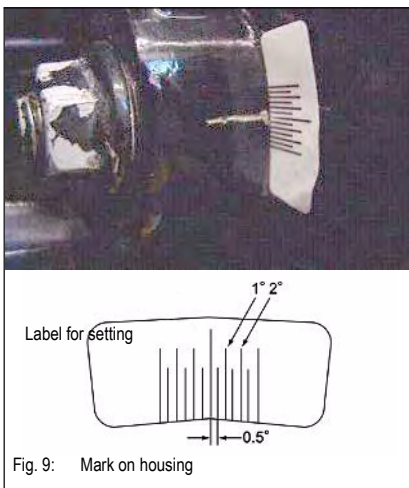

Fig. 9: Mark on housing
- ☞ Mark the initial position on the pump and wheel case housing before setting the fuel injection pump – see fig. 9